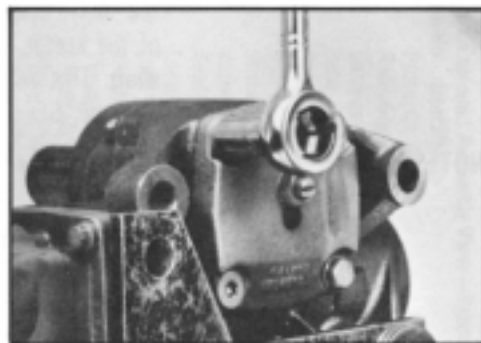

Figure 50
8. Prepare for fluid to drain and remove the four special bolts (42) and lockwashers (42A) from the side cover (43). A 5/8 inch socket required. SEE FIGURE 50. Tap lightly with a soft hammer on the end of sector shaft (51) to disengage seal and let drain.